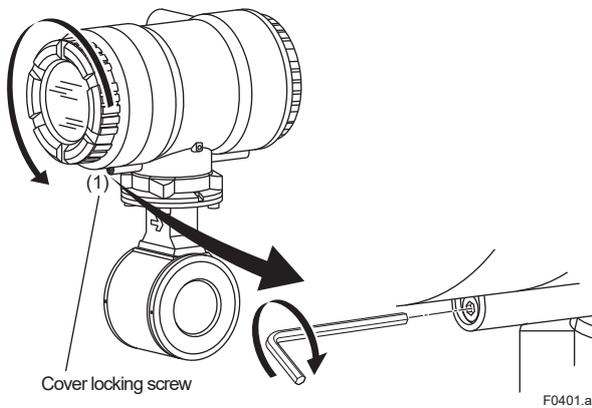
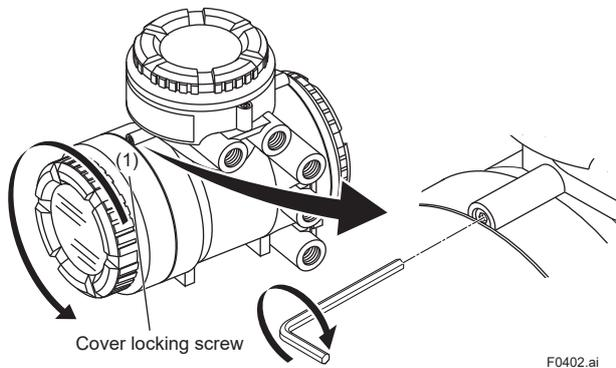

Figure 4.1.1 Removing the Display Cover (AXW Integral Flowmeter)
Figure 4.1.2 Removing the Display Cover (AXW4A Remote Transmitter)
- Using the wrench, loosen the cover locking screw (1) (See Figure 4.1.1 and Figure 4.1.2) clockwise to unlock the cover. Upon shipment from the manufacturing plant, the cover is locked. Hold the flowmeter with your hand. Remove the cover by rotating it counterclockwise.
(3) Installing the Cover
- Tighten cover locking screw (1) (See Figure 4.1.1 and Figure 4.1.2) counterclockwise using a hexagonal wrench (nominal size 3) to lock the cover.